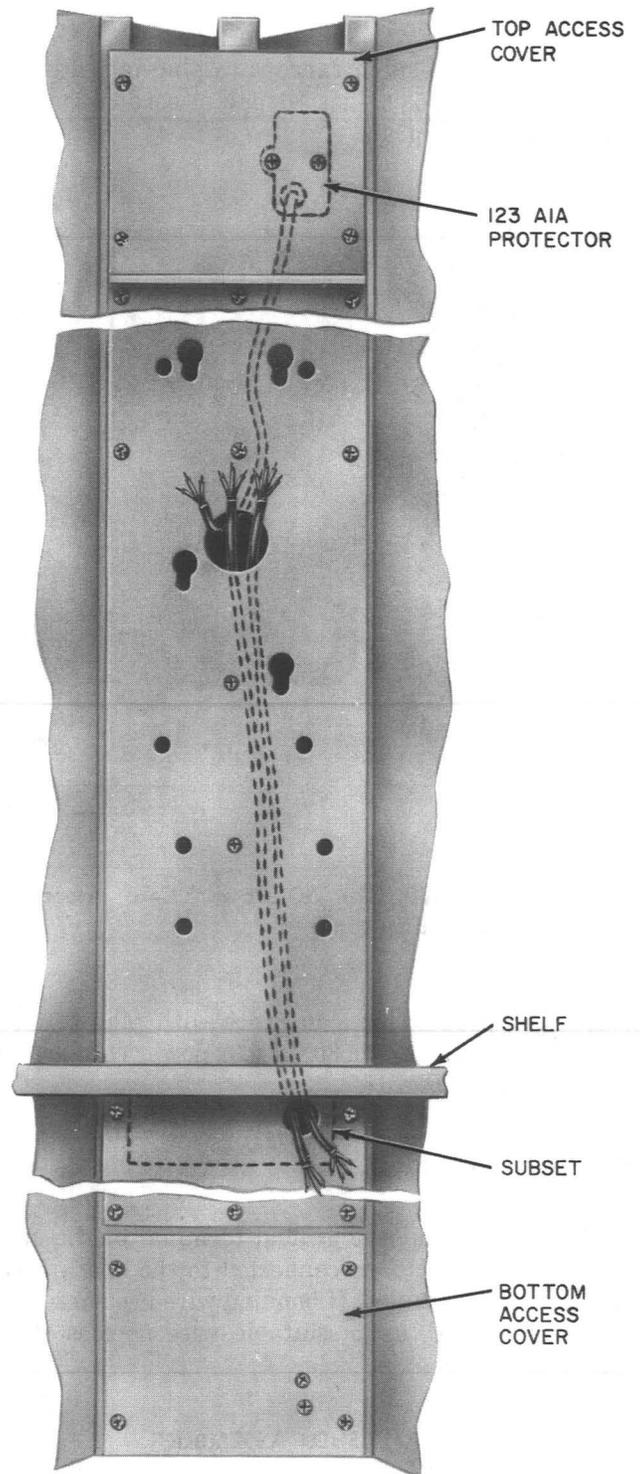

Fig. 14—Station Wiring
3.10 Station connection wires are furnished as shown in Fig. 14.